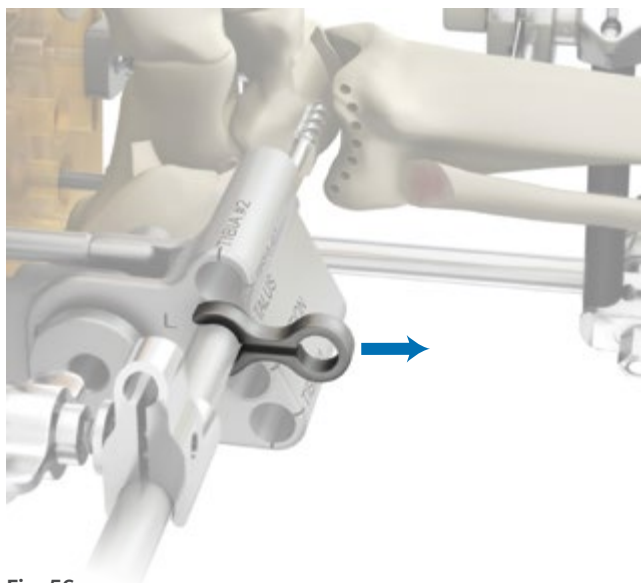

Fig. 56
- Remove the 5 mm Spacer to ensure full implant depth is resected from the tibia (Fig. 56).